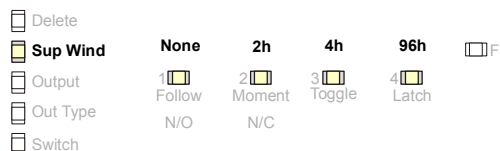

Figure 5 Select the Supervision Window
4. Use the **Advance** button to choose a supervision window of None, 2h, 4h and 96h. Press **Program** to complete and advance to the output option (Fig. 5).